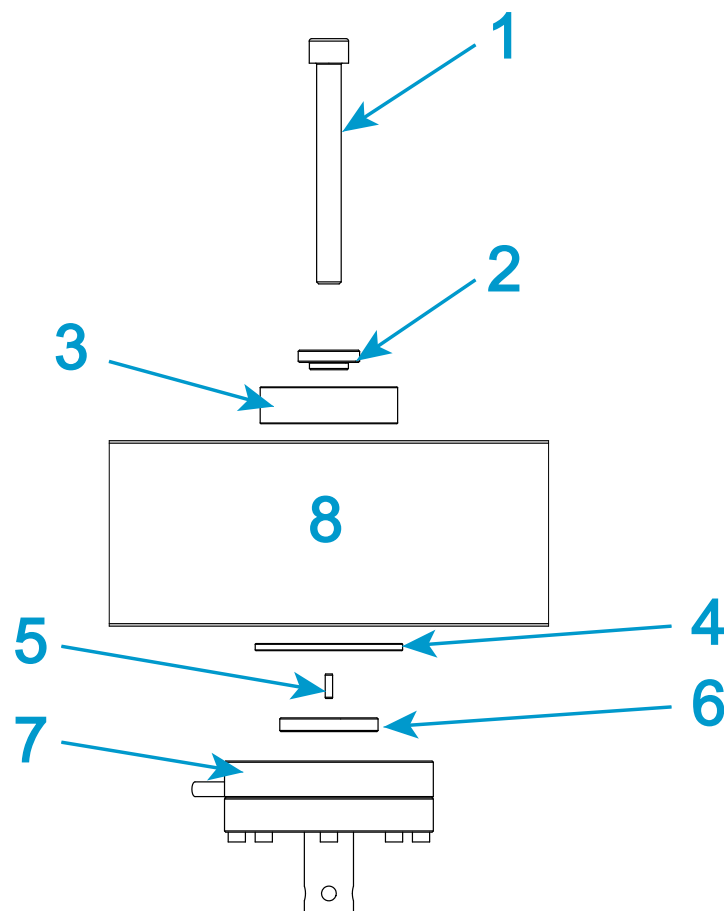

Figure 23. Install a 2530 series load cell - capacities 5 N through 100 N
Legend for Figure 23
1. Refer to Figure 23 and its associated table and collect together the correct mounting hardware.
2. Assemble the hardware shown above the crosshead in Figure 23 and place it into the top of the central bore of the crosshead.